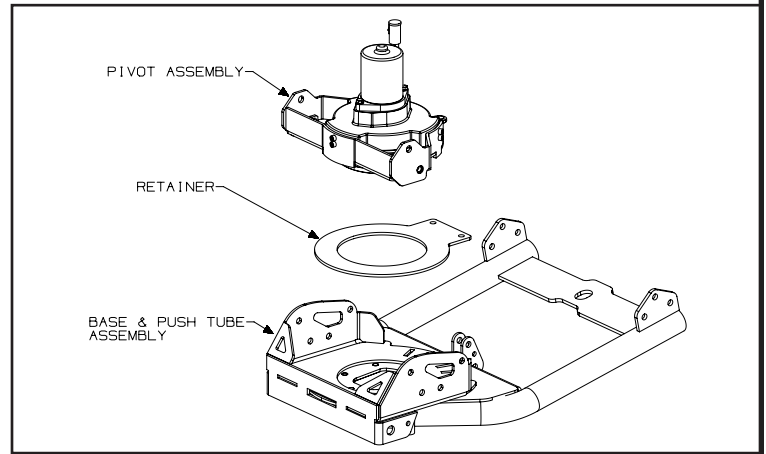

Figure 7
7. Figure 7 shows the Pro-Pivot assembly as being inserted in the plow tube assembly.